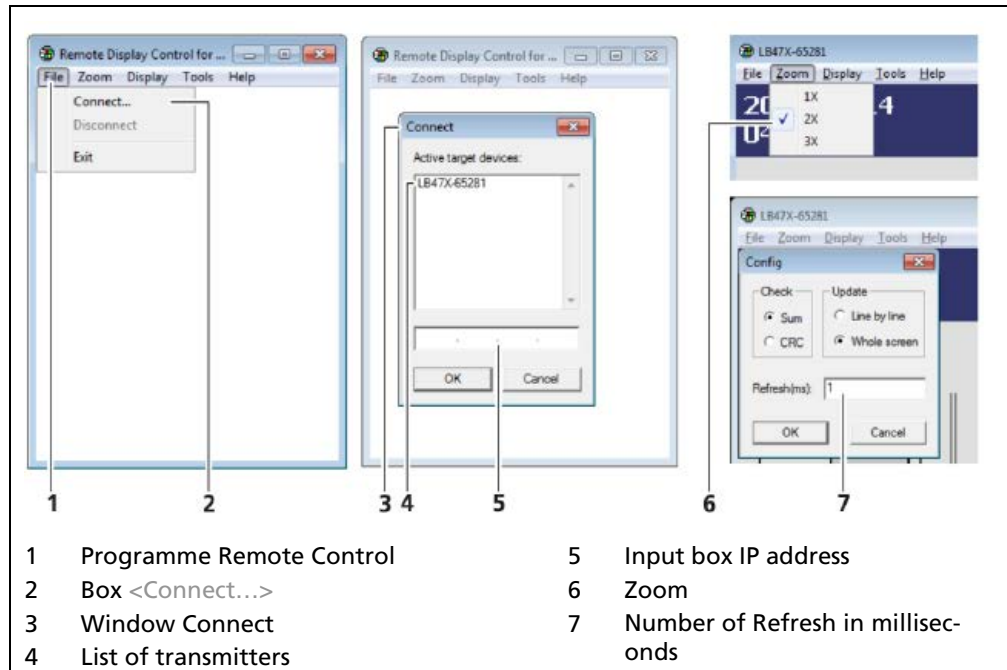

Fig. 40 Establishing connection to the EVU using the RC software
- ▶ The program starts (Fig. 40, item 1).
2. Click on the <File> tab and then on <Connect...> (Fig. 40, item 2), to establish a connection to the EVU.
- ▶ A new window "Connect" is opened (Fig. 40, item 3) and the connected transmitters are listed.
3. Click on the identifier of the transmitter (Fig. 40, item 4) or enter the IP address of the EVU in the input box (Fig. 40, item 5) (see Fig. 40, item 2).